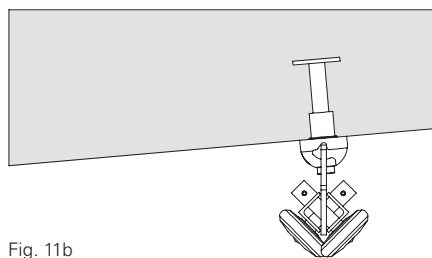

Fig. 11b
The Roller Unit VARIOKIT (17) pivots into the vertical end position as a result of gravity. (Fig. 11b)